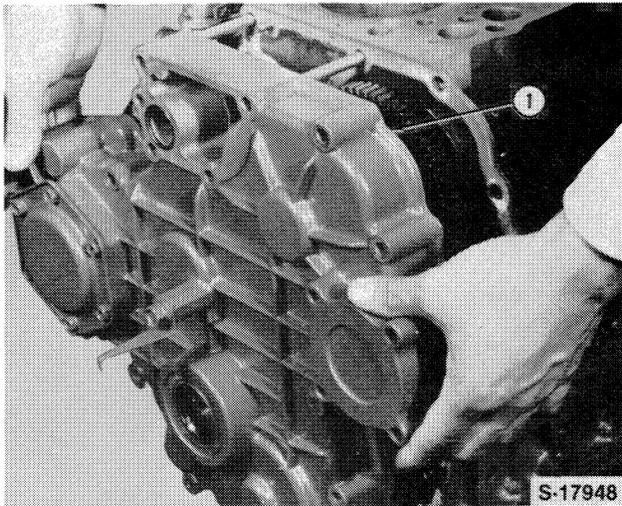

Figure 40
- Remove the timing gear cover bolts and remove the cover assembly, Figure 40, Models 1510 and 1710.